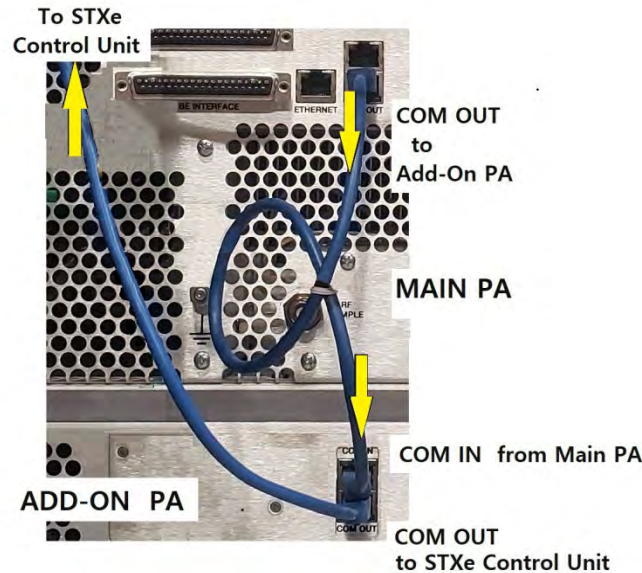

Figure 10 – Communication Cabling
1. Connect the cables provided as shown in Figure 10 for communication between the major assemblies of the STXe5.